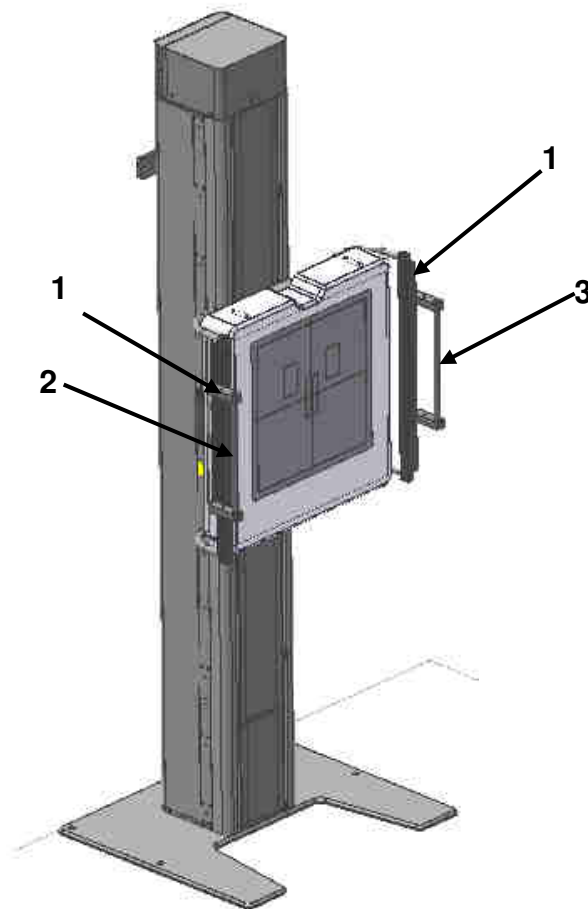

Figure 4-2
Step 1: Insert the stretching roller with locking into the support rail on the right side of the vertical carriage and fix it with the click wheel (Figure 4-2).